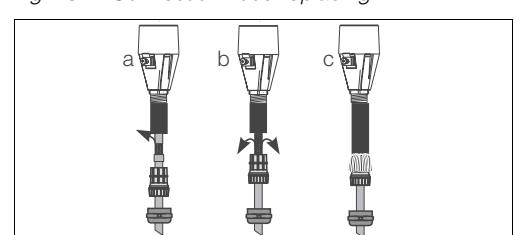

Fig. 24: Cable screening
5. Connect the screen following sequence a to c (Fig. 24).